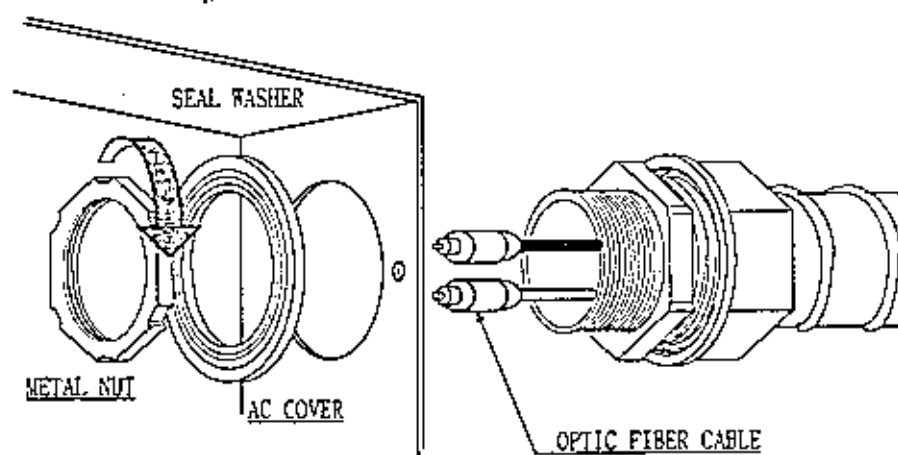

FIG. 19.5
- ⑦ Install the PROTECT TUBE into the AC COVER HOLE. Insert the connector into the AC COVER HOLE, put the seal washer through and fasten the metal nut (Fig. 19.5).